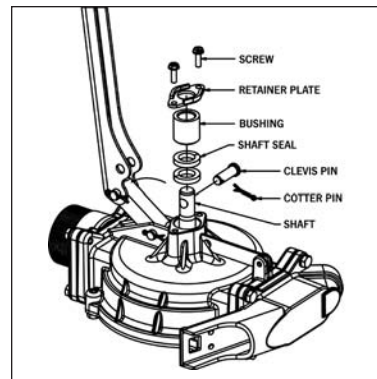

Figure 3
- Reconnect the handle to the shaft using the cotter pin and clevis pin. (Figure 3)